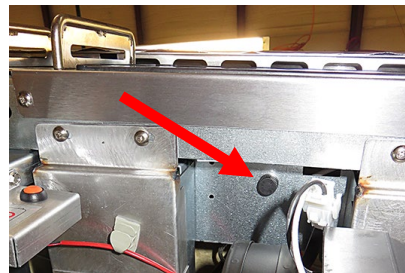

Figure 1
1. Disconnect the fryer from the electrical power supply. The fuse located under the bottom of the control box, can be removed, to remove power from individual control boxes (see Figure 1). Turn the fuse cap to remove. On electrical fryers, the individual fryer can be switched off.